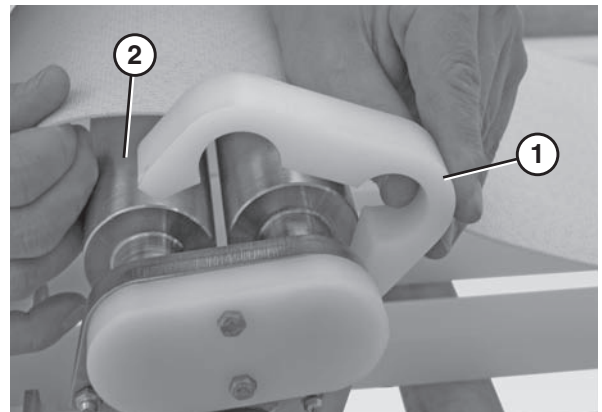

Figure 85
1. Slide the pinch guard blocks (**Figure 85, item 1**) off the nose bar spindles (**Figure 85, item 2**).